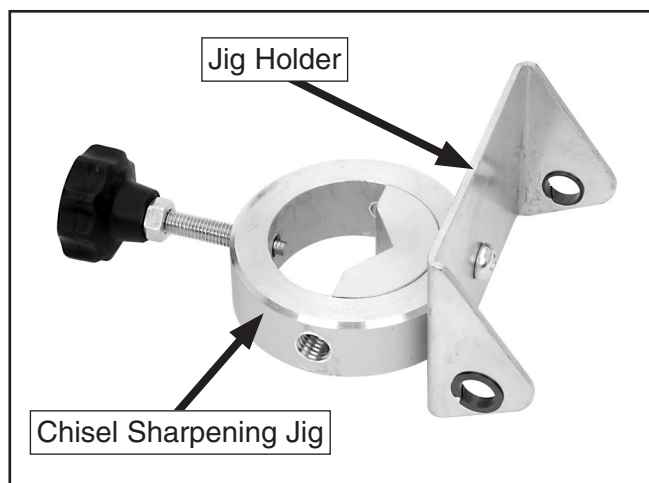

Figure 6. Beveled chisel jig assembled.
2. Reassemble the jig and the jig holder as shown in **Figure 6**.